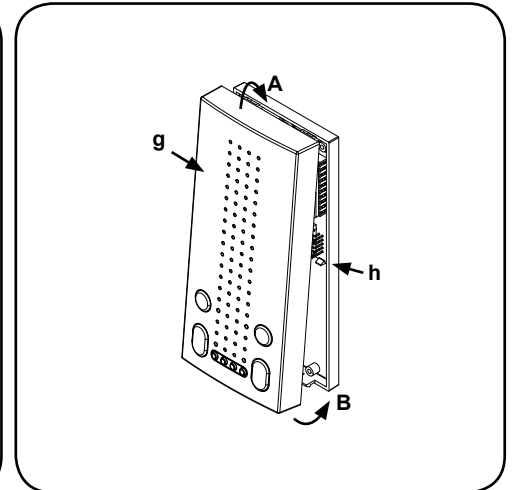

Fig.6
- Hook the top of the front plate "g" to the top of the back plate as shown by pointer "A" in Figure 6.
To open the intercom once installed, firmly grasp the bottom sides of the front plate cover, pull forward in an upward direction to separate the front cover from the back plate as in Figure 6. **NB. Please take care when opening to avoid damage, remember that the ribbon cable connects the front plate to the back plate connector pcb.**